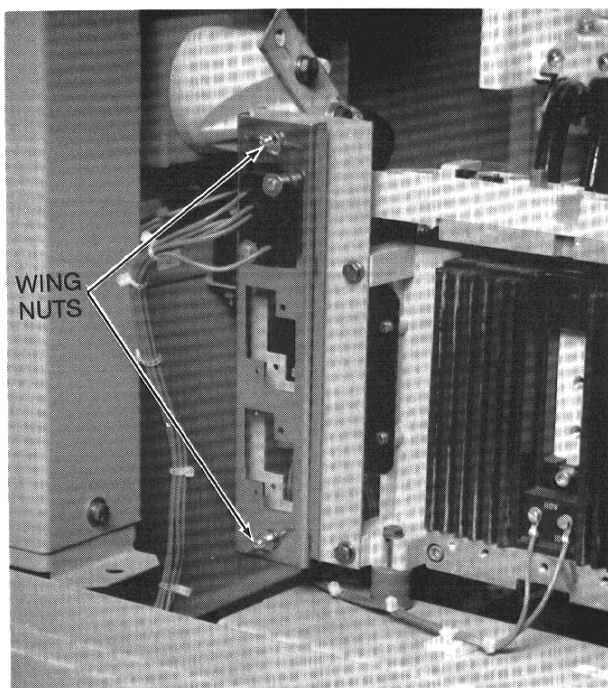

Figure 24. Remove wing nuts shown.
- a. Remove the wing nuts holding the contactor umbilical cord and connectors in place and save the hardware. This hardware will be re-used to remount the connector when the contactor is reinstalled. Unplug the connector and place the bracket in the lower front channel to the left of the contactor for safe storage. See Figs. 24 and 26.